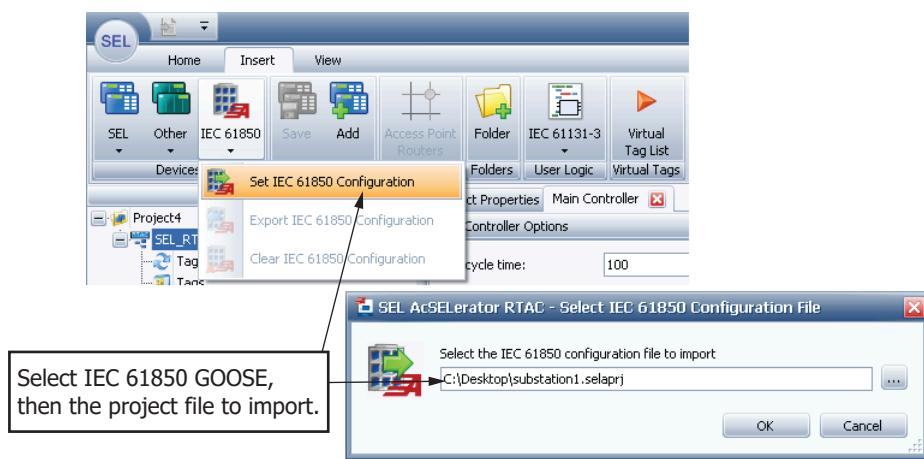

Figure 2.48 Insert GOOSE Configuration
Step 8. In ACSELERATOR RTAC, select **SET IEC 61850 Configuration** from the **Insert** ribbon and browse to the selapprj project file (see *Figure 2.48*).